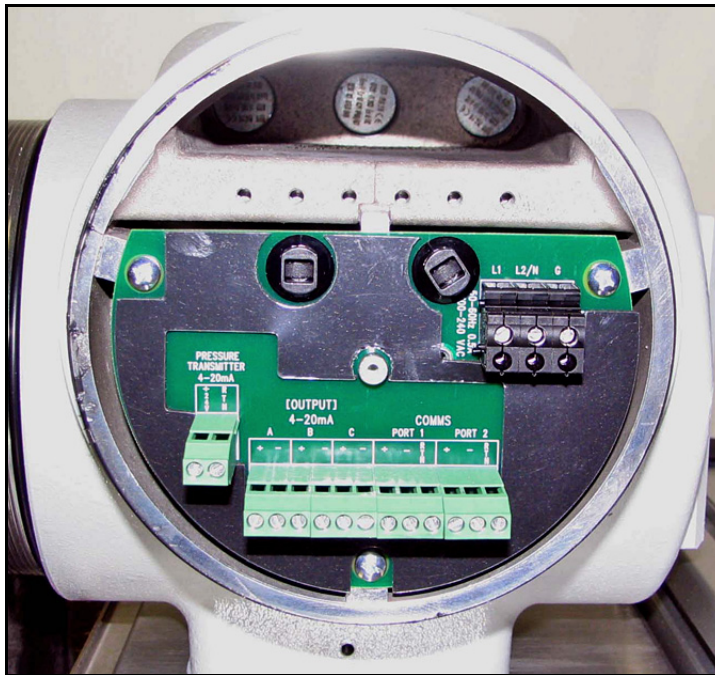

Figure 25: Wiring Terminal Blocks
2. Select one conduit for inlet power to the **Aurora H2O** based on your configuration. The **Aurora H2O** comes with a universal power supply, or optionally, as a 24VDC powered unit. Remove the wiring cover to view the wiring terminal block (see *Figure 25* below).